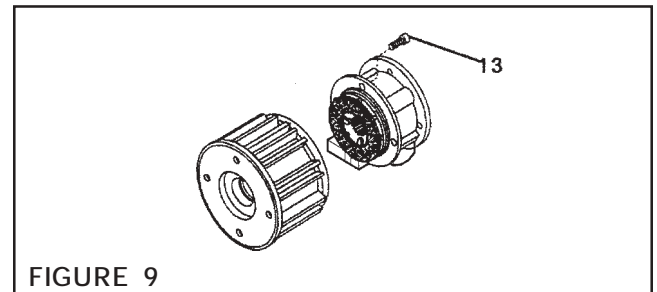

FIGURE 9
1. Remove the four Socket Head Cap Screws (Item 13) and separate the two halves of the FMCBE (See Figure 9).